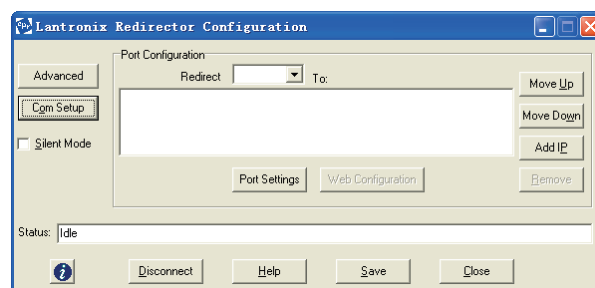

**Figure 6:** User interface of Port Collection Editor
(5). Click “Port” at the right corner of the user interface of Lantronix Xport Installer 3.2 so it can display the user interface of Port Collection Editor, shown as figure 6: